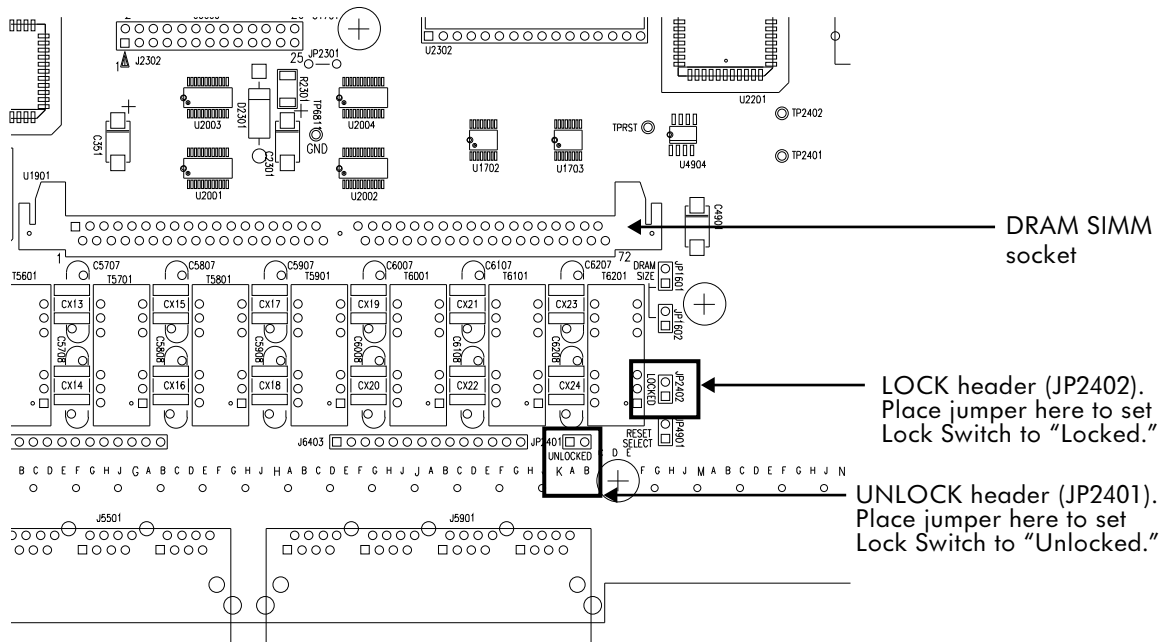

FIGURE 5–13 Location of the Lock Switch jumpers.
- (2) Locate the Lock Switch headers and jumper. The Lock Switch headers and jumper are located on the right edge of the Packet Engine, about half-way toward the rear of the module. Figure 5–13 shows the Lock Switch headers in detail.